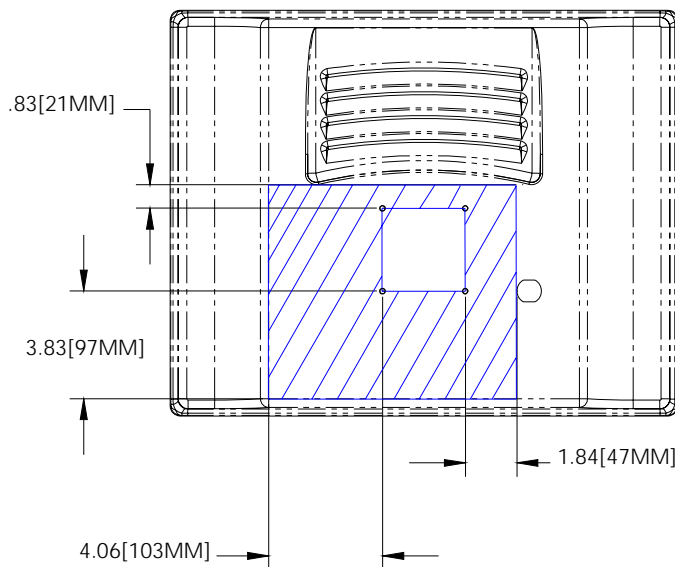

FIG. 53 MB-TP17 Mounting contact surface area
5. Firmly push the Strain Relief Grommet into the opening (toward the inside) until the rim is securely flush against the back of the rear plastic cover (FIG. 53).
7. Note the available mounting contact surface area on the rear plastic cover (FIG. 53). This area represents the space available for use with a VESA connector plate.
9. Align a VESA mount connector (purchased separately) to the four #8-32 screw holes on the back of the rear plastic cover (FIG. 53).